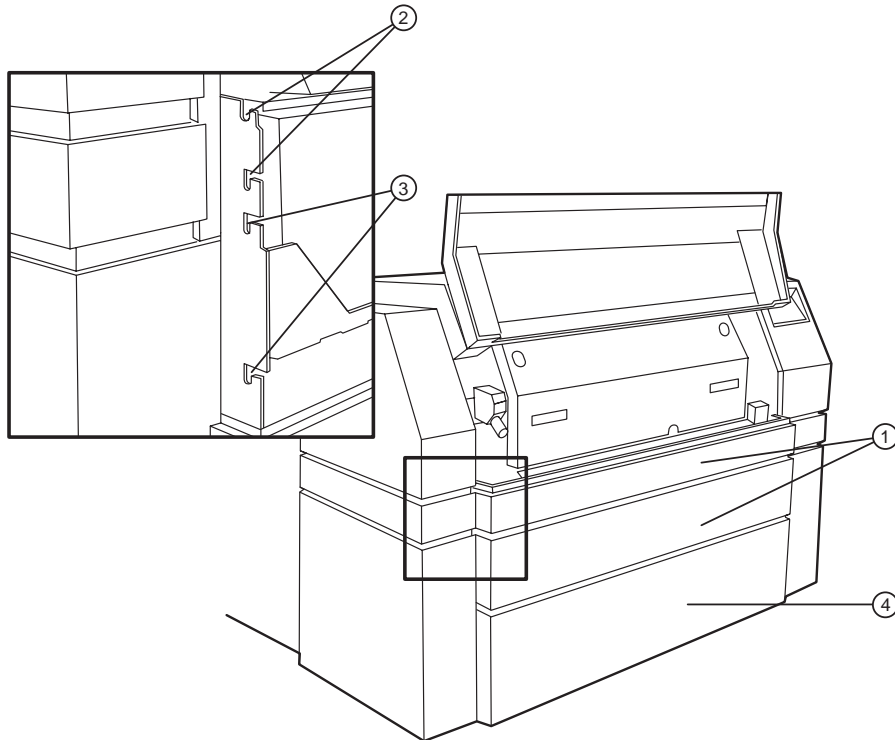

Figure 4-5 Middle panel lock slots.
①—Top panel. ②—Top lock slots.
3. Do the same for the middle panel, being careful to clear it from its lock slots on the sides. Refer to Figure 4-5.